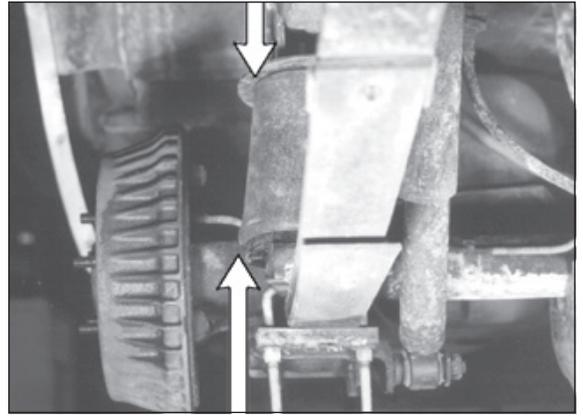

Figure 26
1. **IMPORTANT:** With the bottom of the air spring still loose, inflate the air spring to approximately 10 p.s.i. Use the slotted adjustment in the lower bracket to correctly align the air spring between the upper and lower bracket. This can be accomplished by tapping it inboard or outboard for proper alignment. There should be a symmetrical cushion of air around the base of the air spring when correctly positioned. Figure 26 represents a misaligned air spring. Figure 27 shows a properly aligned air spring.